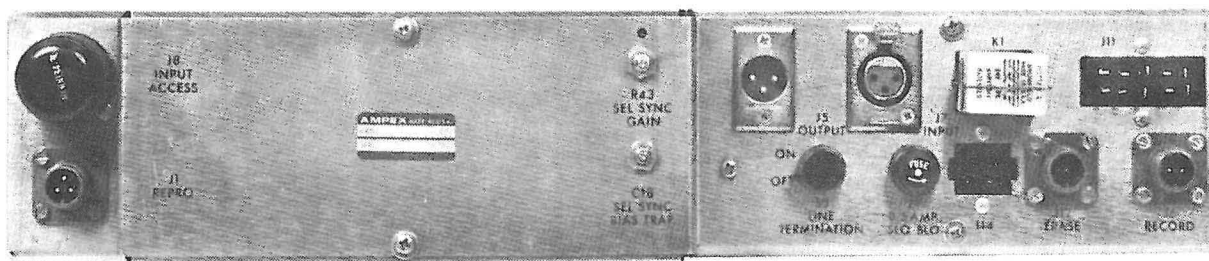

Fig. 2-4. Record/Reproduce Unit (Rear)
2.5 CONNECTING SIGNAL LINES (See Figure 2-4)
The two-position LINE TERMINATION switch (see Figure 2-4), is usually at OFF, except during test or adjustment procedures. However, if the equipment is to be used to drive a high-impedance load (2,000 ohms or more), the switch must be in the ON position.
2.7 INSTALLING ACCESSORIES OR DUMMY PLUGS (See Figure 2-4)